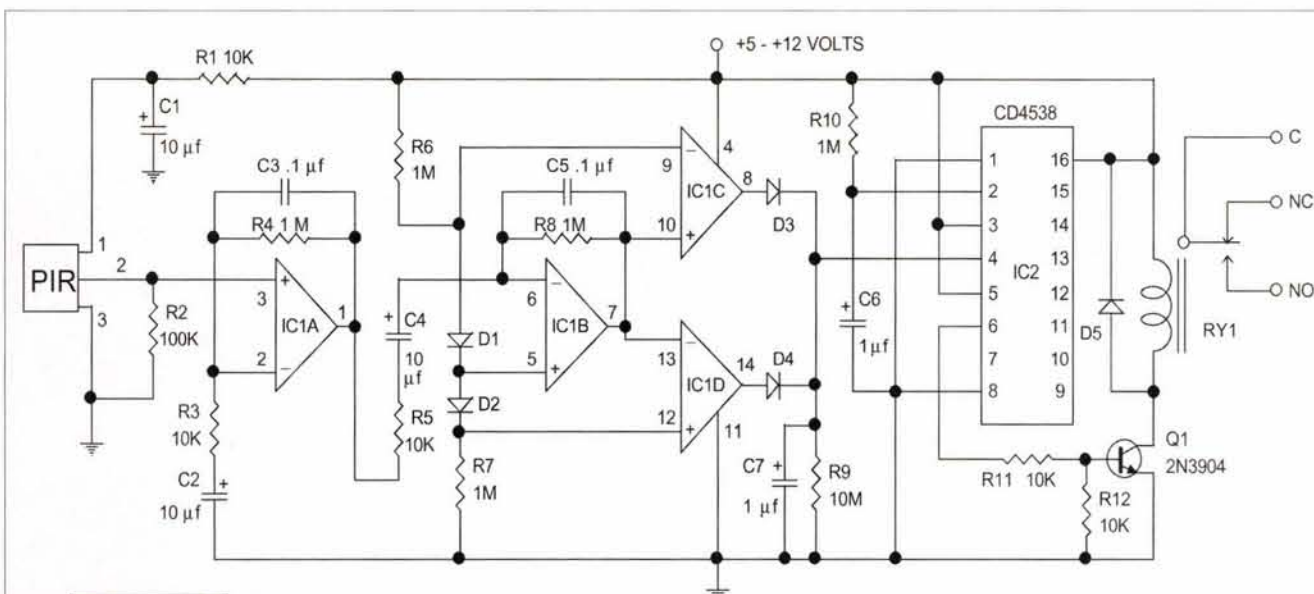

Figure 5
A. Hacking is such a harsh word. What you really want to do is modify an existing product to meet your specific needs — taking pictures. Fortunately, most of these devices are based on a very similar schematic, shown in Figure 5 (courtesy Glolab, www.glolab.com).